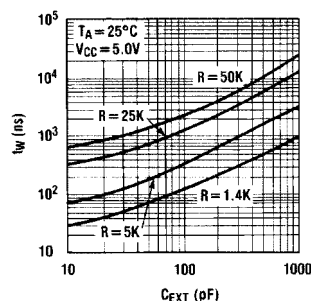

FIGURE 1.
3. The pulse width is essentially determined by external timing components R_X and C_X. For C_X < 1000 pF see Figure 1 design curves on t_W as function of timing components value. For C_X > 1000 pF the output is defined as: